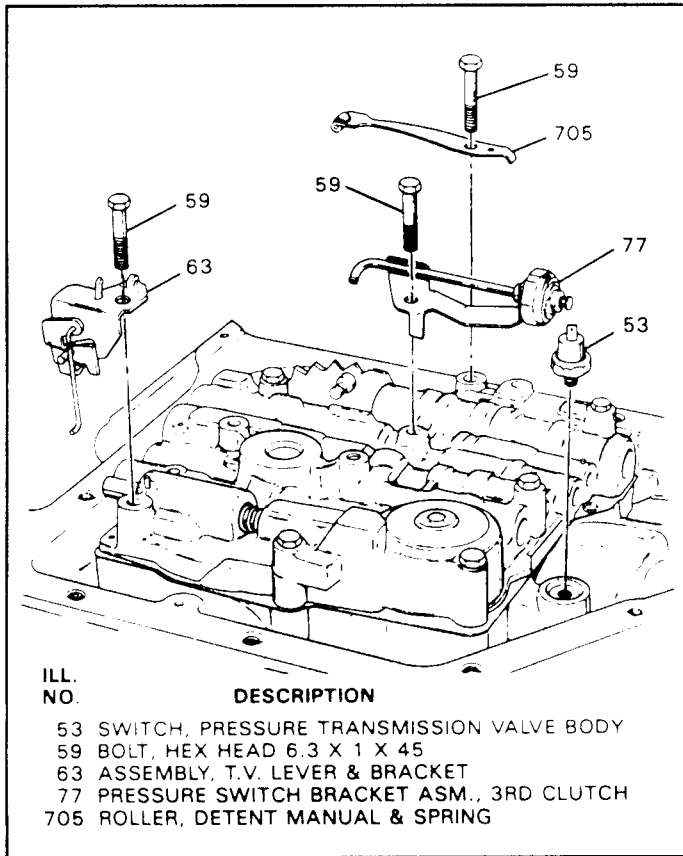

Figure 118
15. Install manual detent roller and spring assembly as shown in Figure 118.
16. Install the throttle lever and bracket assembly and retain with valve body bolt (See Figure 118).
17. Install the 3rd clutch pressure switch, as shown in Figure 118.